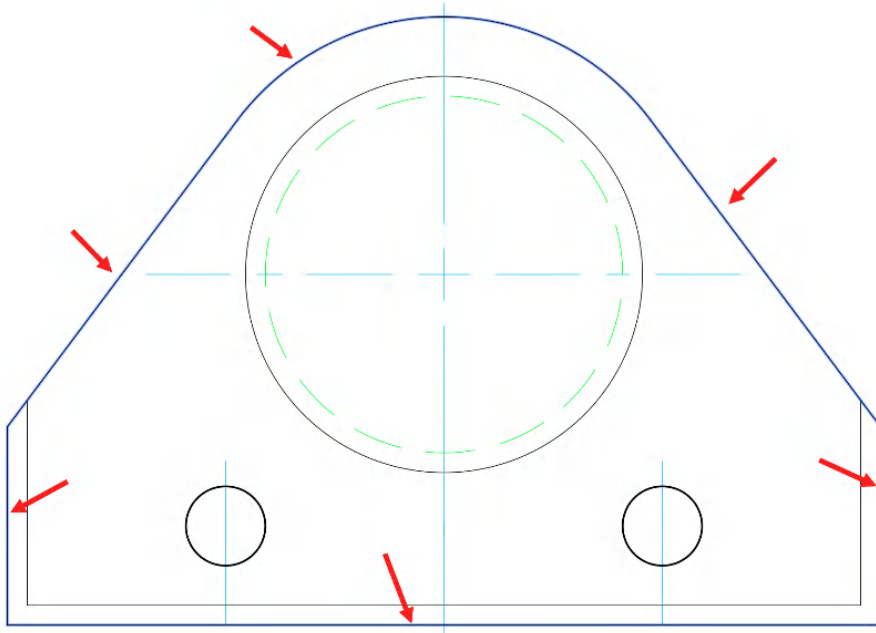

Figure 5.16: The selected elements (arrowed) to be joined into a polyline using the Edit Polyline (*PEDIT*) command
4. Select **Join** from the flyout menu and select all the remaining elements that form the bearing case outline. *Figure 5.16* shows all the selected elements, which AutoCAD highlights in blue.